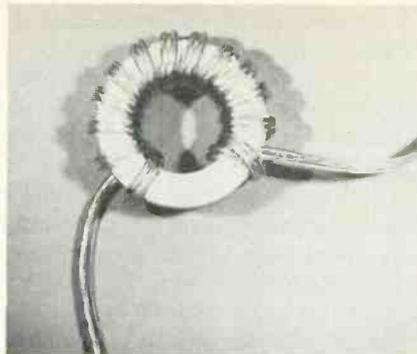
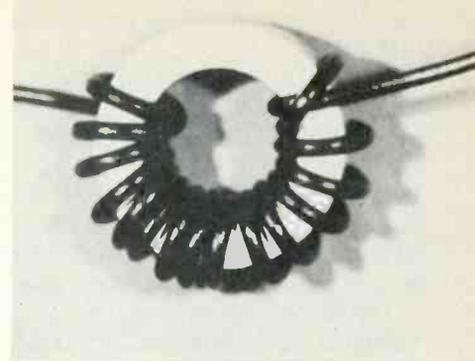

Fig. 2B RF choke wound on toroid ferrite core using speaker leads
Fig. 2C Toroidal RF choke using hook-up wire
2. Install an *RF choke* in series with the speaker lead, as close to the amplifier chassis as possible. Do not use a regular RF choke, as these cause too much phase shift even in the audio range. Fig. 2 shows several suitable chokes that you can make. In Fig. 2A we see the speaker leads wrapped around a 100 mm (4 in) ferrite rod. The rod could possibly be salvaged from an old portable radio, or be purchased. The rod shown is the model MU-125 sold by Amidon Associates (12033 Otsego Street, No. Hollywood, CA 91607). Alternatively, a ferrite toroid (also by Amidon) can be used in the same manner (Fig. 2B). An RF choke for use inside of the amplifier can be fashioned using hook-up wire wrapped around a somewhat smaller toroid, (Fig. 2C).
Fig 2B note: Shaded areas show current conduction
But things can get even worse ... look at figure 2B, which is the same as Figure